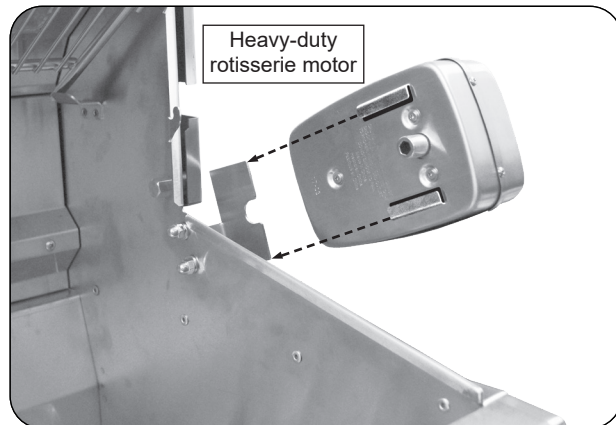

Fig. 39-2 Install rotisserie motor
2. Slide the rotisserie motor fully onto the motor bracket located on the right side of the grill (see Fig. 39-2) and connect it to a power source (do not turn on).